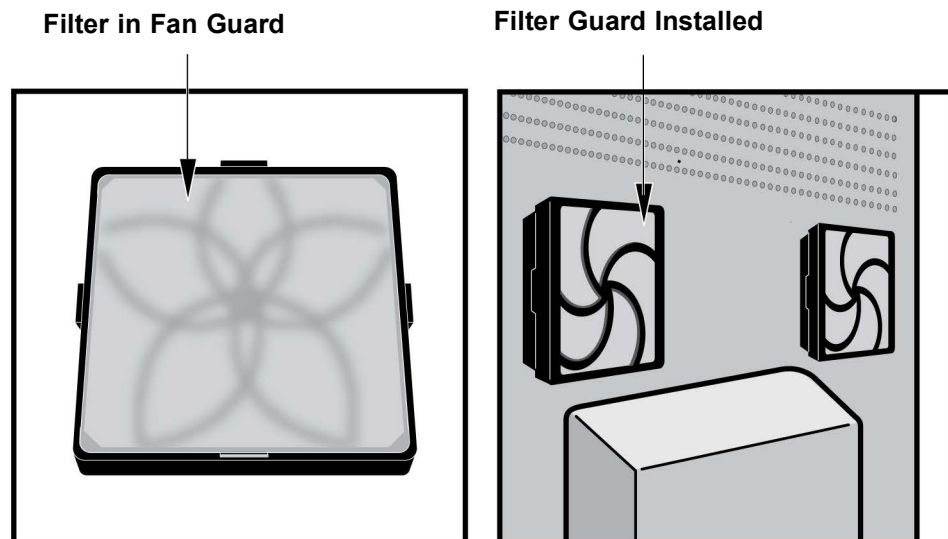

Figure 9-20. Replacement Filter and Guard Installed
7. Position the fan filter guard and filter into place as a unit. Press the sides of the guard firmly onto the fan housing until the grip snaps securely onto the fan. Press the bottom of the guard until the grip snaps securely onto the fan. See Figure 9-20.